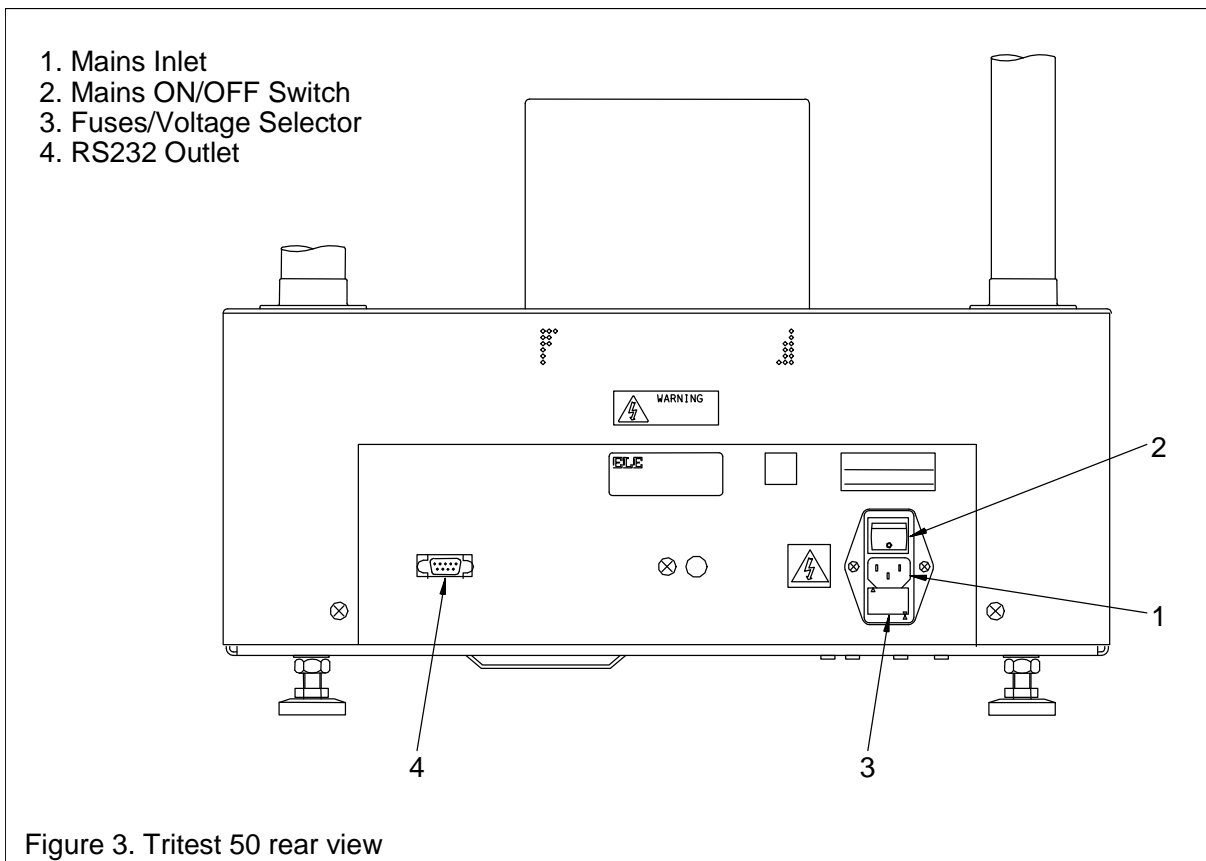

Figure 3. Tritest 50 rear view
An RS232 outlet (4) (figure 3) is a standard feature of these machines and is situated at the rear (see appendix A for details).
***DANGER: Misapplication of the voltage to the machine can result in both electrical hazards and damage to the equipment. The position of the fuseholder drawer in the power inlet module determines the line voltage the machine is set for. The machine normally ships factory set for the correct voltage for the supplied power cord, but ALWAYS verify proper line voltage settings prior to applying power during the initial installation/s. (See item 2 in the following paragraph for details.)***
Fuses/Voltage Selector (3) (See Figure 3, Item 3)